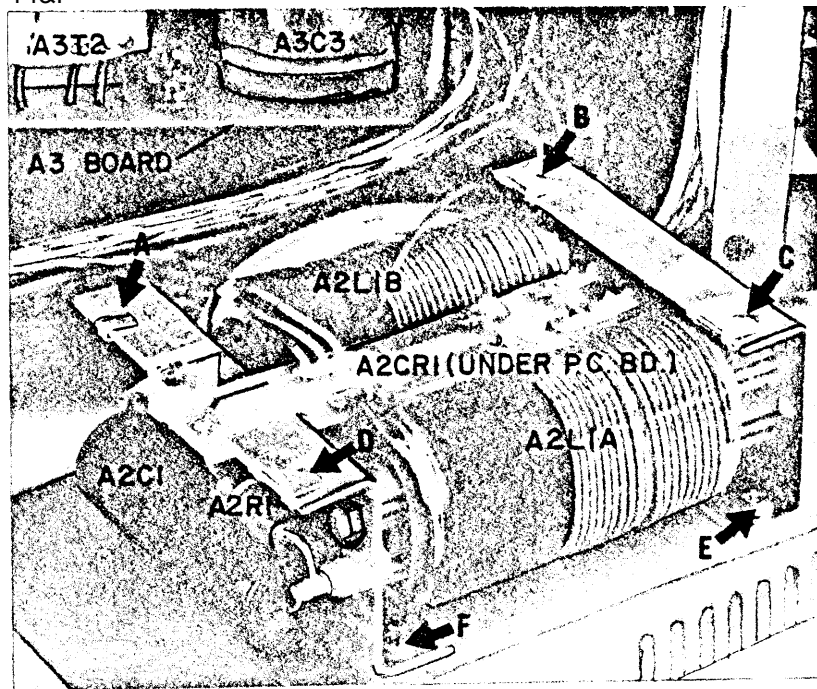

Figure 7-1. A2 RFI Assembly Component Location Diagram
- a. Component location diagrams (Figures 7-1 through 7-8, and 7-10), showing the physical location and reference designators of parts mounted on the printed circuit boards and chassis.
- c. Schematic diagram (Figure 7-1 1), illustrating the circuitry for the entire power supply. Voltages are given adjacent to test points, which are identified by encircled numbers on the schematic.